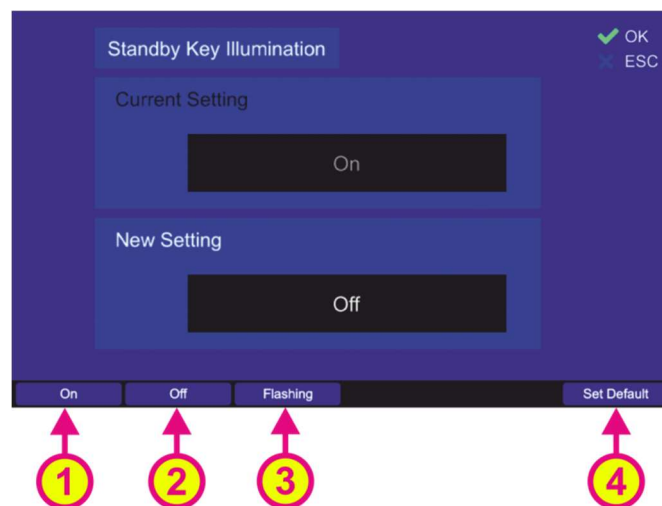

Figure 100. Changing the standby key illumination setting
To change this setting value press the “Edit Value” hotkey, while “Display Brightness” is marked. Following dialog opens (s. Figure 100).
- Choose the “On”, “Off” or “Flashing” hotkey to set the desired variant of the key illumination (s. Figure 100, positions 1, 2 or 3).
- Use the “Set Default” hotkey (s. Figure 100, position 4) to reset the value to the default setting (Off).